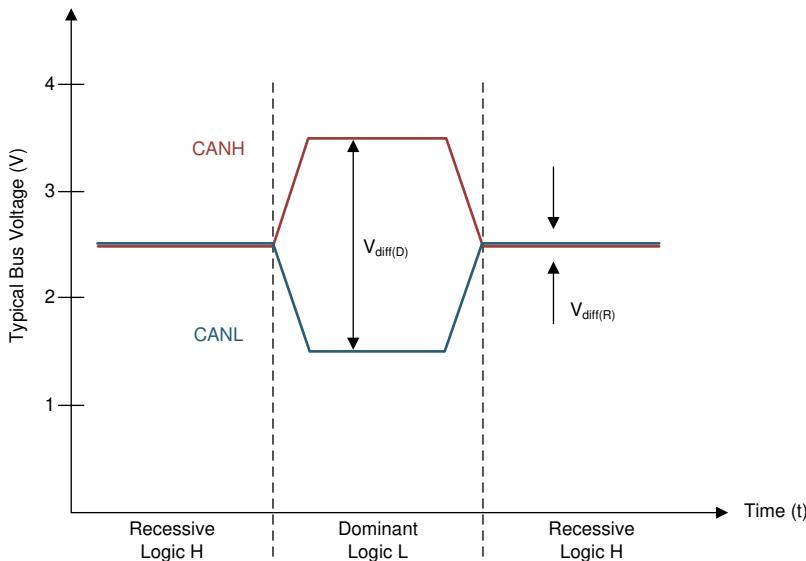
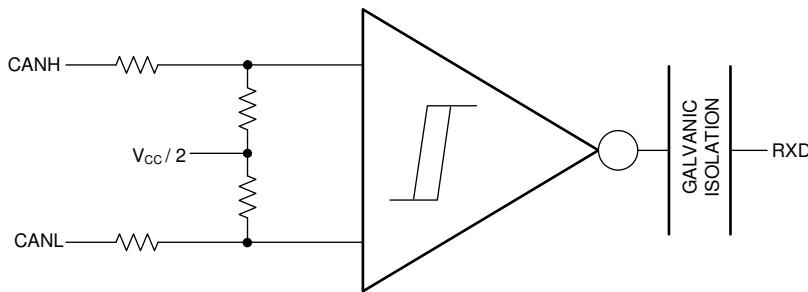

Figure 25. Bus States (Physical Bit Representation)
Figure 26. Simplified Recessive Common Mode Bias and Receiver
The CAN bus has two states during operation: *dominant* and *recessive*. A dominant bus state, equivalent to logic low, is when the bus is driven differentially by a driver. A recessive bus state is when the bus is biased to a common mode of $V_{CC} / 2$ through the high-resistance internal input resistors of the receiver, equivalent to a logic high. The host microprocessor of the CAN node uses the TXD pin to drive the bus and receives data from the bus on the RXD pin. See Figure 25 and Figure 26.
(1) H = high level, L = low level, Z = common mode (recessive) bias to $V_{CC} / 2$. See Figure 25 and Figure 26 for bus state and common mode bias information.